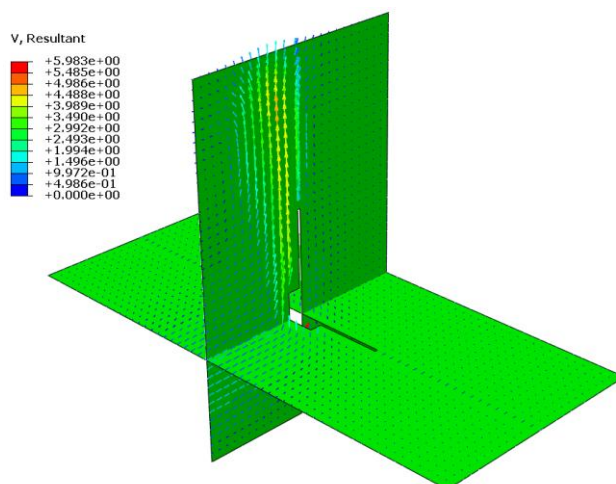

Figure W2-6 Velocity vector plot on two cut-planes: surrounding air
- b. In the toolbox, click  to create a vector plot (alternatively select **Plot**→**Symbols**→**On Undeformed Shape**). The plot appears as shown in Figure W2-6.